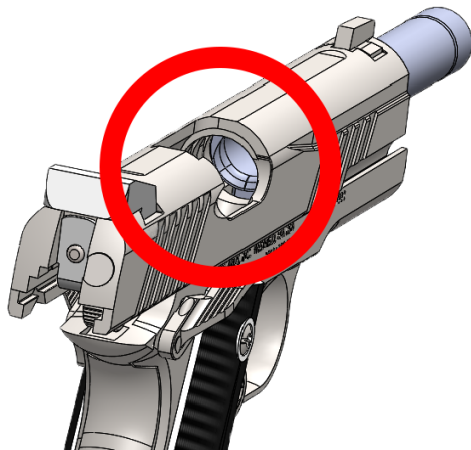

Figure 9
- Check the barrel chamber to verify it is unloaded by looking through the breech end, from the rear as indicated in Figure 9. NEVER look down the muzzle to look for any obstructions.